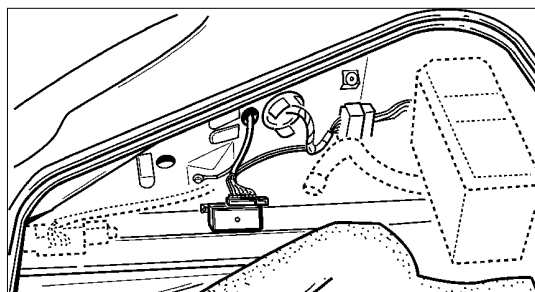

Figure 6
- 4.2 Remove the protective film from the Velcro strips on the control unit and attach the control unit to the side member/right wall of the luggage compartment. The plug should be facing upward as shown in Figure 6.